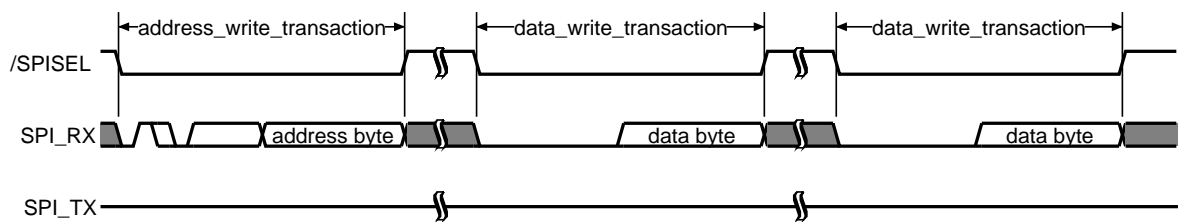

Figure 2.15: Multiple write accesses to the same register
2. It is allowed to execute multiple data write transactions to the same register address without address write transactions in between. This is shown in Figure 2.15 and is typically used for transmit FIFO data.